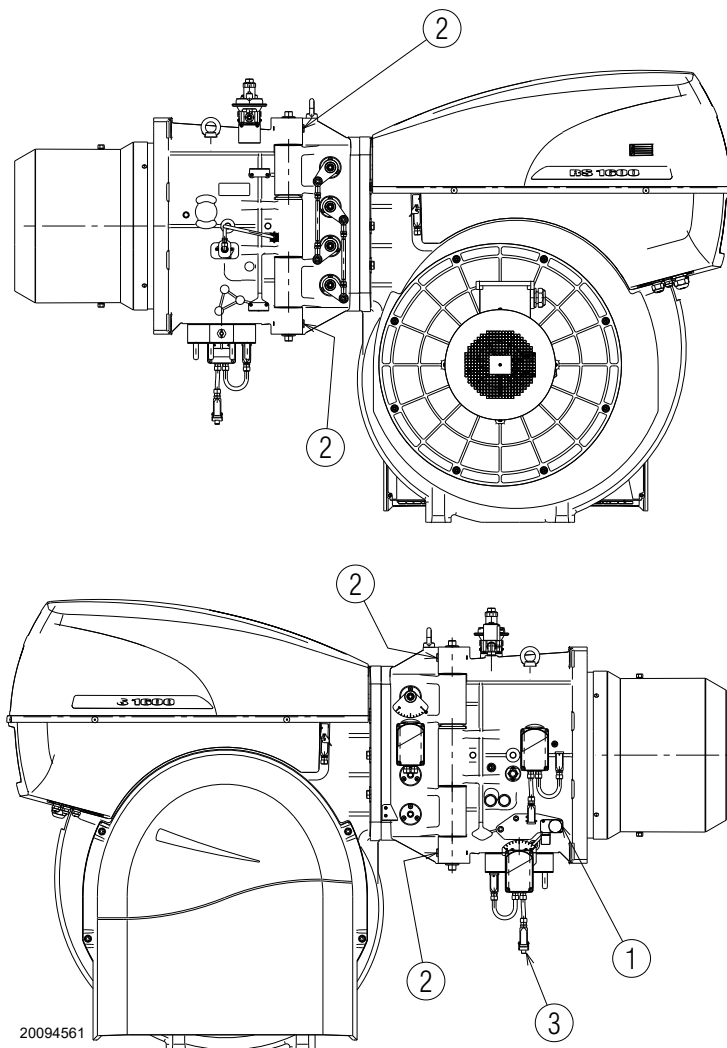

Fig. 35
- Remove the gas pressure switch connection 1)(Fig. 35).